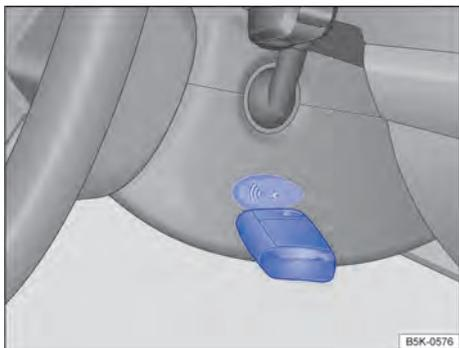

Fig. 88 To the right of the steering column: emergency start function of vehicles with Keyless Access locking and start system.
- Hold the vehicle key after pressing the start button directly to the right of the steering column → Fig. 88.